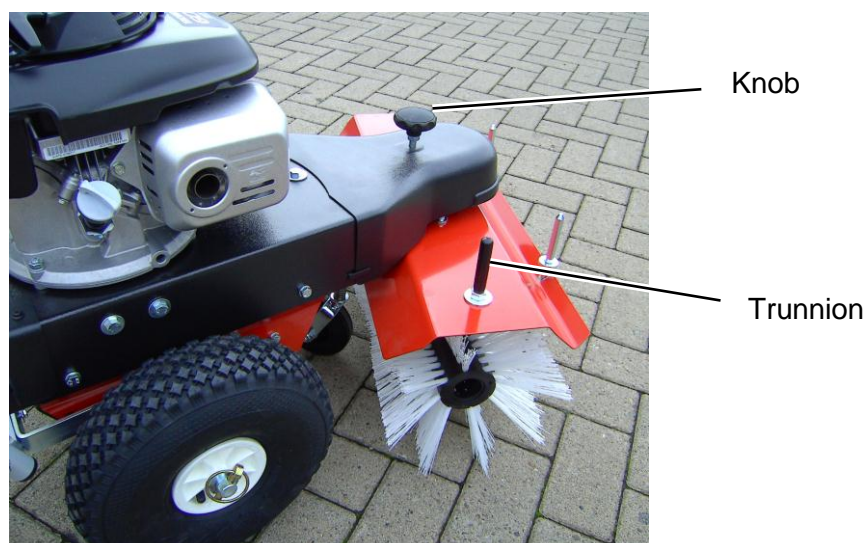

Fig. 8: Positioning the Brush Machine diagonally
- ⇒ Go to the front of the brush deck and pull out the knob that is above the protective cover until the catch is released (see Fig. 8).
- ⇒ Grasp the trunnion on the right side of the brush deck (Fig. 8) and swing the deck into the desired position.